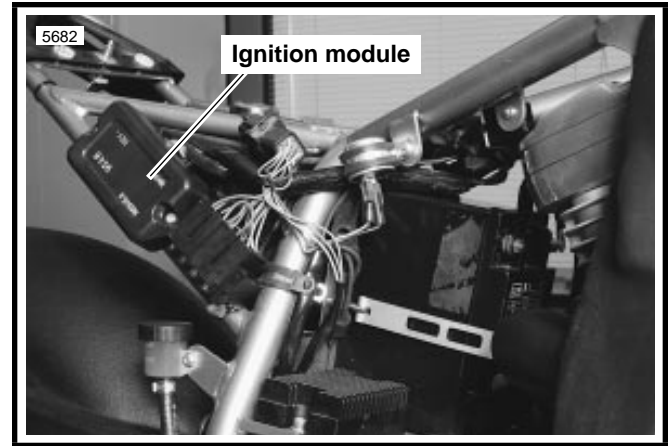

Figure 7-7. Ignition Module
See Figure 7-7. The ignition module is located on a plate which is a portion of the frame. The ignition module is not repairable. Replace the unit if it fails.
5. See Figure 7-7. Remove screws and washers to detach module from frame.
1. See Figure 7-7. Fasten module to frame using screws and washers.